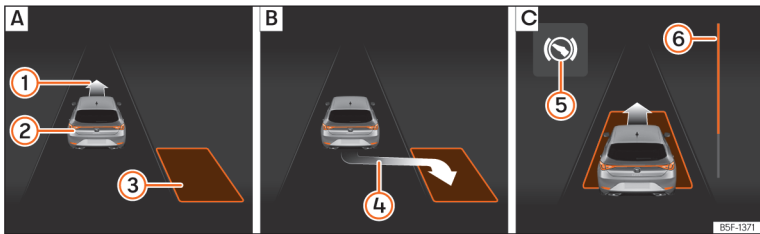
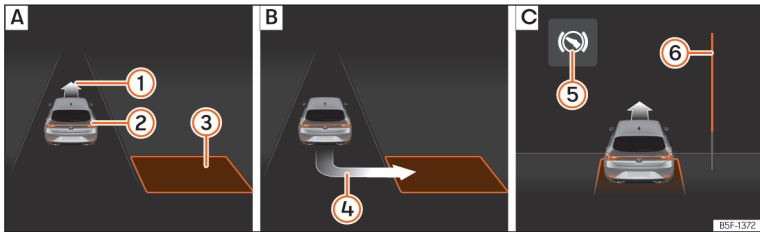

Fig. 153 On the instrument cluster display: angle parking. **A**: Finding a parking space **B**: Parking position. **C**: Manoeuvring.
Fig. 154 On the instrument cluster display: angle parking. **A**: Finding a parking space **B**: Parking position. **C**: Manoeuvring.
- Look at the instrument cluster screen to see if the space has been detected as “appropriate” and if the correct position for parking has been reached >>> Fig. 153 **B** or >>> Fig. 154 **B**. The space is considered “appropriate” if the instrument cluster display shows the parking indication 4.
- Reverse until the continuous ParkPilot signal sounds; **OR:** reverse until the indication to move forward appears on the instrument panel display >>> Fig. 153  or >>> Fig. 154 ; **OR:** reverse until the **Park Assist finished** message appears on the instrument cluster display. The progress bar  indicates the distance to cover.
- Move forward until the continuous ParkPilot signal sounds; **OR:** move forward until the reverse indication appears on the instrument panel display. The Park Assist system steers the vehicle forward and back until it centres it in the space >>> Fig. 153  or >>> Fig. 154 .
The progress bar >>> Fig. 153  and >>> Fig. 154  on the instrument cluster display shows the relative distance to be covered as a symbol. The greater the distance, the fuller the progress bar. When driving forward, the content of the progress bar decreases upwards, and when reversing, it decreases downwards.